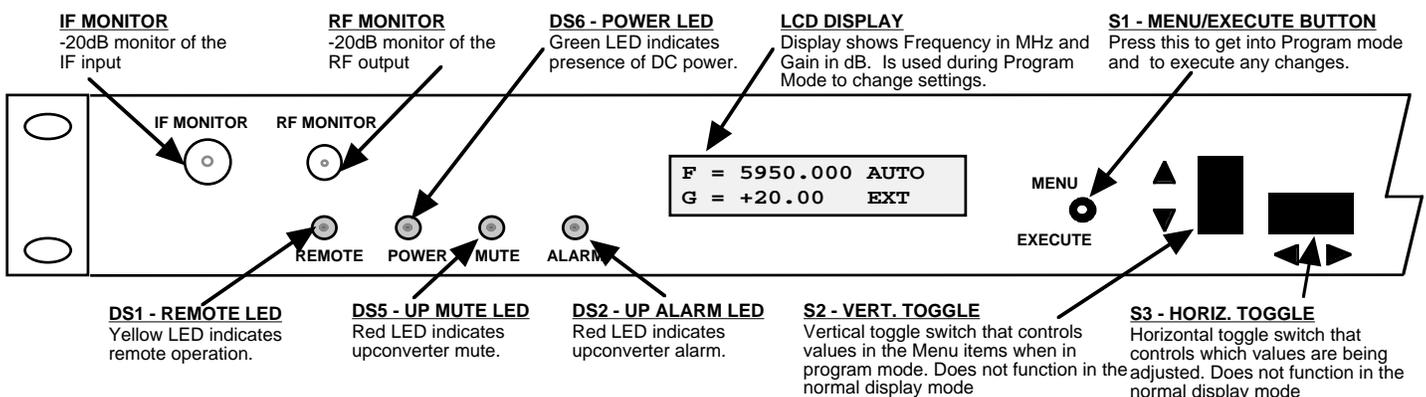

FIGURE 2.3 2015-61 Front Panel Controls and Indicators
9. Be sure DS6 (green, DC Power) is on and DS2 (red, Alarm) is off (Figure 2.3).